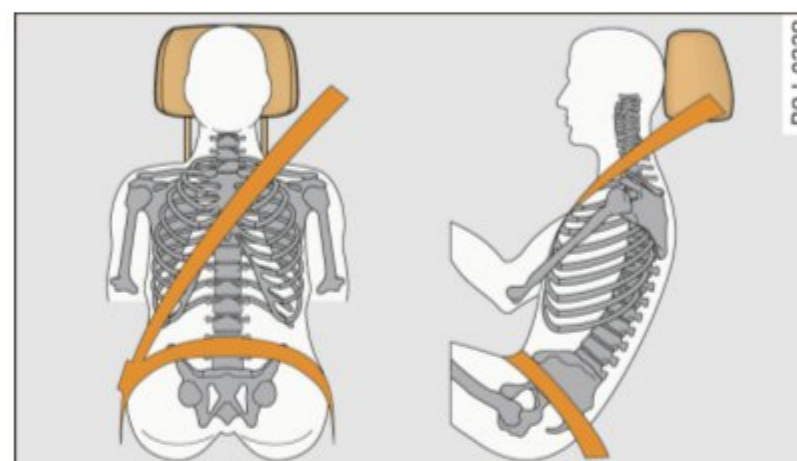

Fig. 182 Head restraint and safety belt position as seen from the side
- The safety belt must lie flat and snug on the occupant's upper body ⇒ *fig. 182*. Pull on the belt to tighten if necessary. ►
- The lap belt portion of the safety belt must be positioned as low as possible across pelvis and never over the abdomen. Make sure the belt lies flat and snug \Rightarrow fig. 182. Pull on the belt to tighten if necessary.